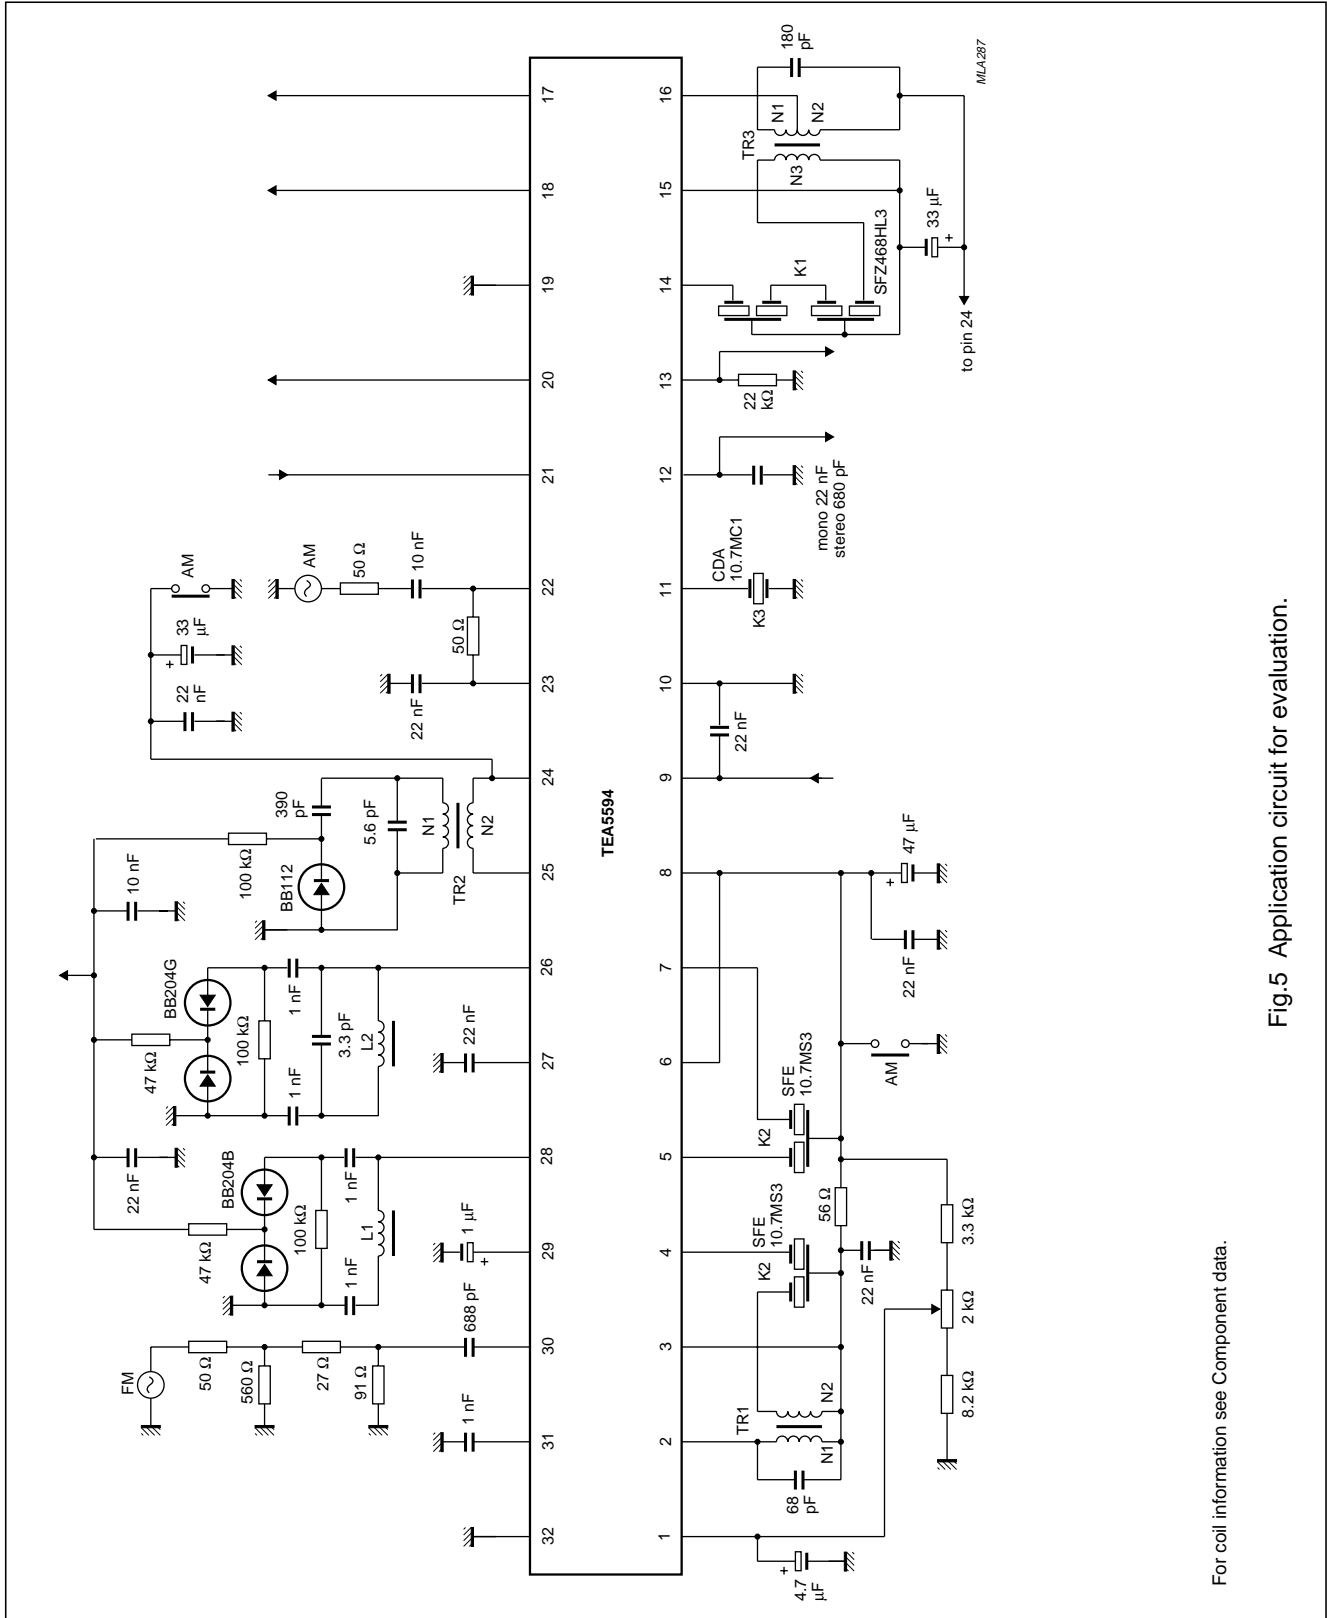

Fig.5 Application circuit for evaluation.
4. Front-end connected to IF plus detector part (see Fig.5). Input frequency = 1 MHz; m = 80% modulated with f_{mod} = 1 kHz.